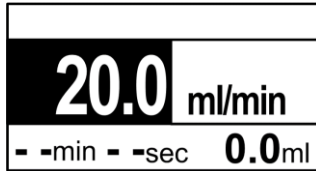

Fig. 28: Specified flow
1. Press control knob, Fig. 28 appears